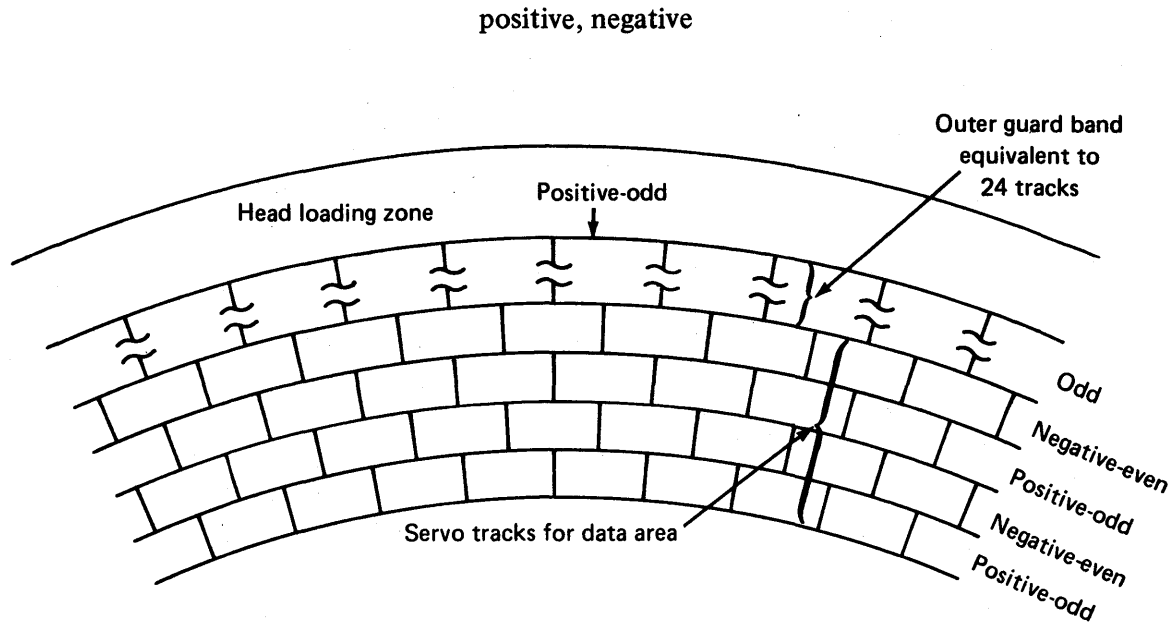

Figure 48. Dibit patterns on the servo surface
16. Figure 48 shows a portion of the servo surface with the head loading area having no recorded data and with the guard band and the alternating tracks of even and odd dibit patterns in the data area. An important concept to remember here is that a positive (or odd) track goes all the way around the surface and a negative (or even) track does the same. Each dibit track is a concentric circle, as are data tracks. In fact, the placement of these recorded tracks determines the location of the data tracks, as you will see in later frames.